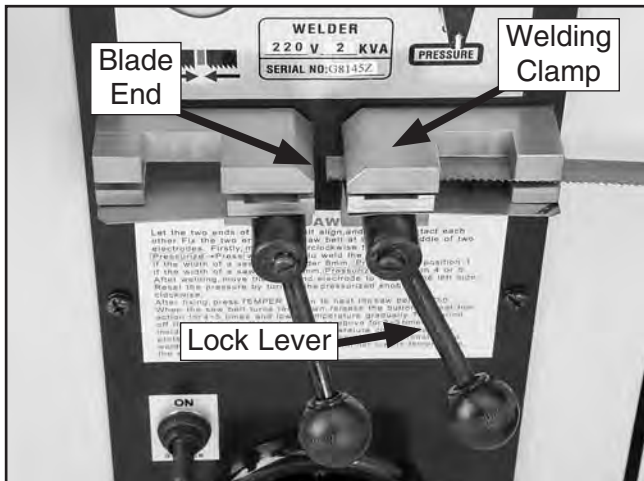

Figure 35. Blade end properly position in welding clamp and locked in place.
- Position the back of one blade end evenly against the back of the welding clamp so that the end is midway between the two clamps, then rotate the lock lever all the way up to hold the blade end in place (see **Figure 35**).